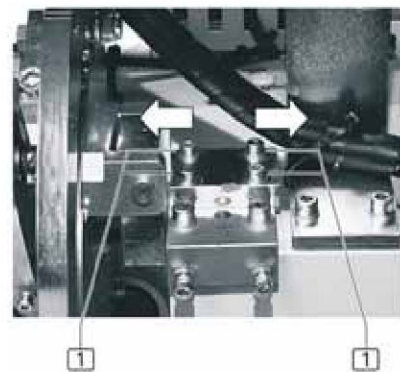

fig. 27
- 2 **fig. 27:** Loosen the four fastening screws **1** of the holder.